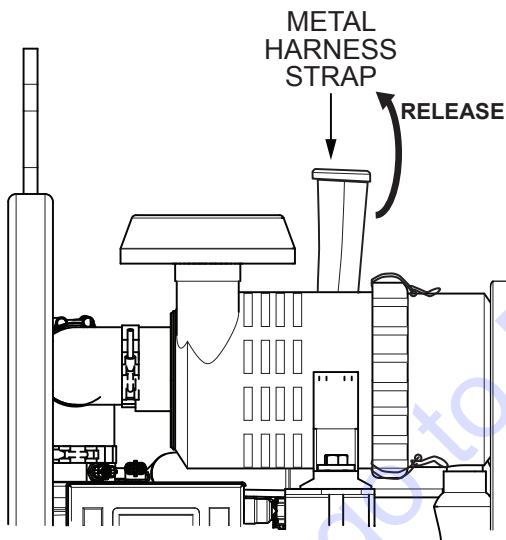

Figure 30. Releasing Metal Harness Strap
2. Release the metal harness strap that holds the air filter in place (Figure 30).